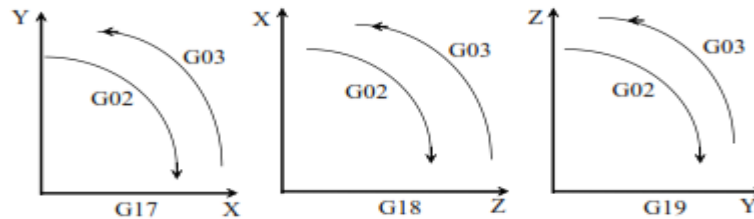

Figure 3.5 Direction of circular interpolation
G02 a circular path in clockwise direction (CW) (Figure 3.5)
G02 and G03 are defined when the working plane is specified. Figure 3.5 shows the direction of circular interpolation.